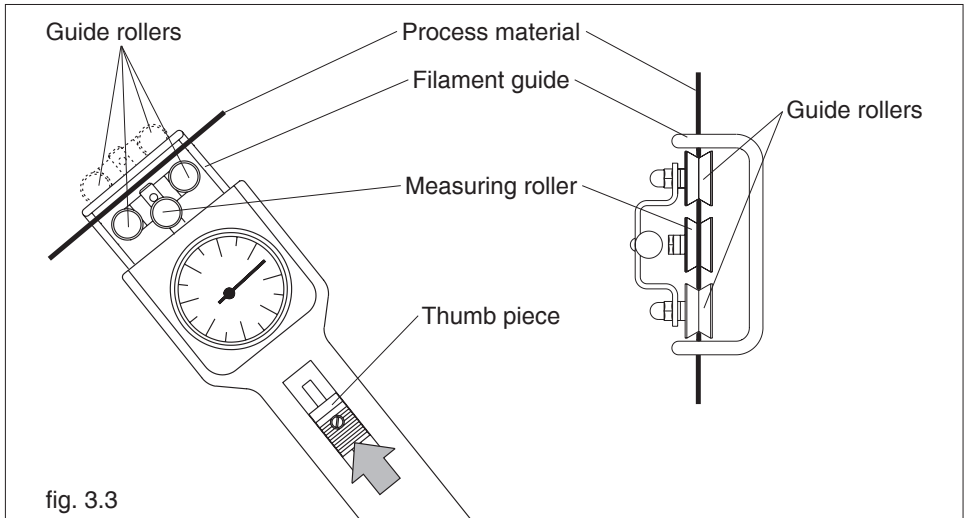

fig. 3.3
- Keeping the outer rollers extended, bring the instrument behind or under the filament and move it so that the filament guide bars contact the process material (fig. 3.3).